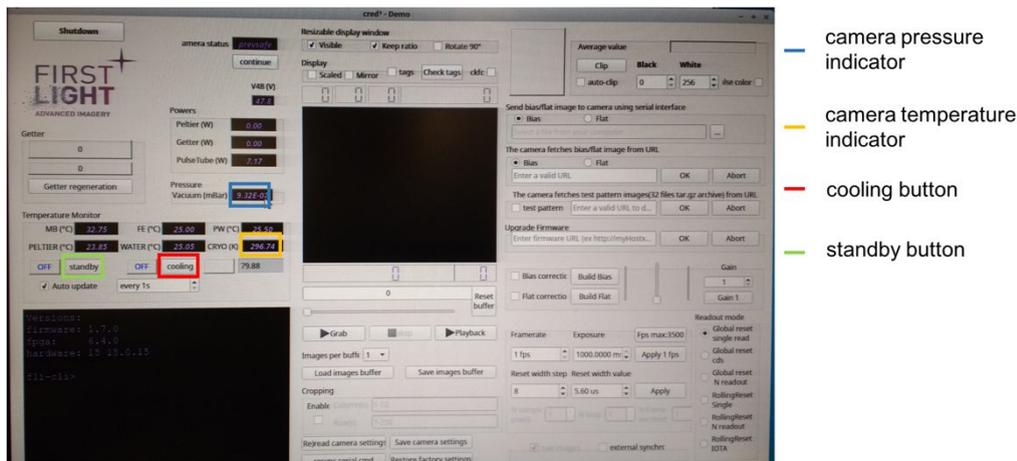

Fig 1: Screenshot of C-RED-ONE camera GUI highlighting locations of camera pressure and temperature indicators and cooling and standby buttons.
- c. Open an xterm window and enter command “credonImAcq”. The window in Fig.1 should pop up..
16. Ensure again that the camera pressure reads 1×10^{-5} mbar before hitting the "cooling" button on the camera GUI (see Fig.1) to start cooling. [You have to click the word "cooling" rather than the "on/off" label next to it]. The "camera status" will change to "isbeingcooled".